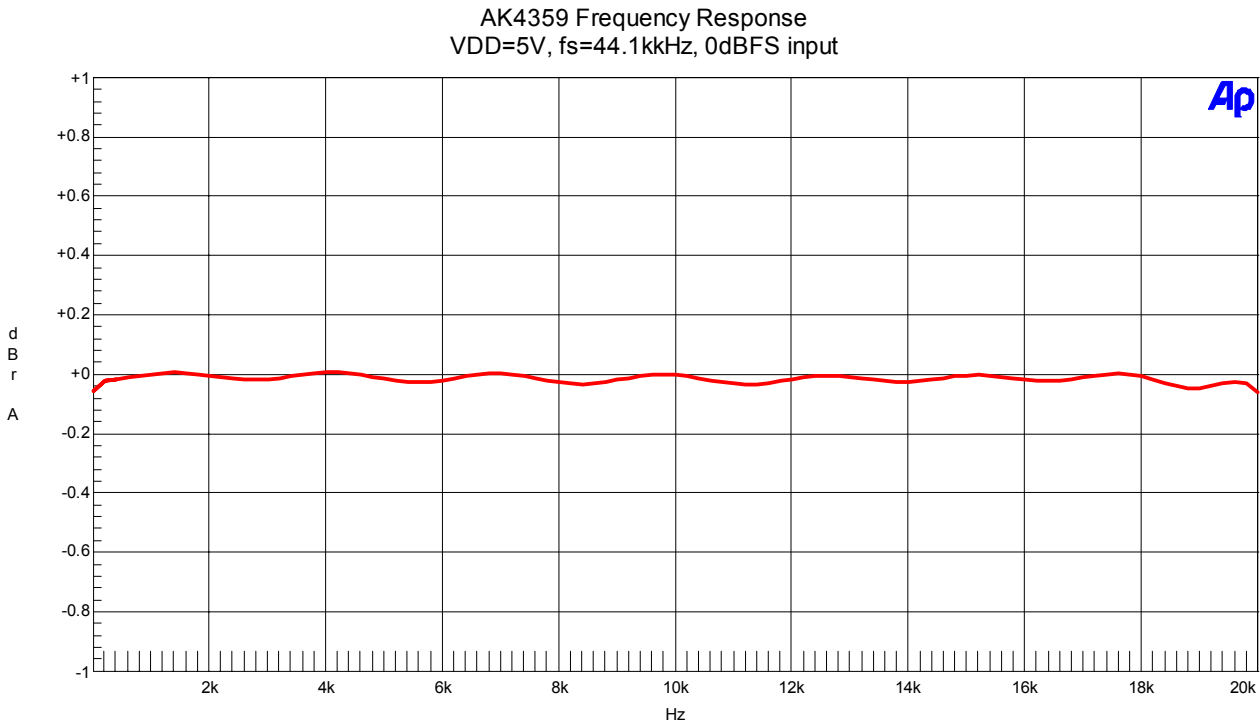

Figure 11. Frequency Response (Input level=0dBFS)
- Figure 11. Frequency Response (Input level=0dBFS)